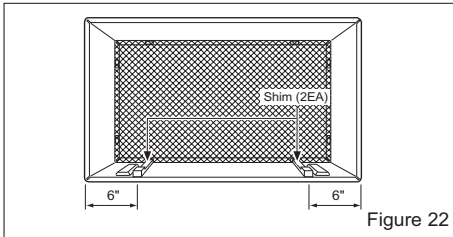

Figure 22
- 7 To achieve rearward slope for unit draining, remove the backing from the 11-13/16" shim strips and attach them as shown below in Figure 22. The higher portion of shim is to be placed in front of the rib on the base of wall sleeve.